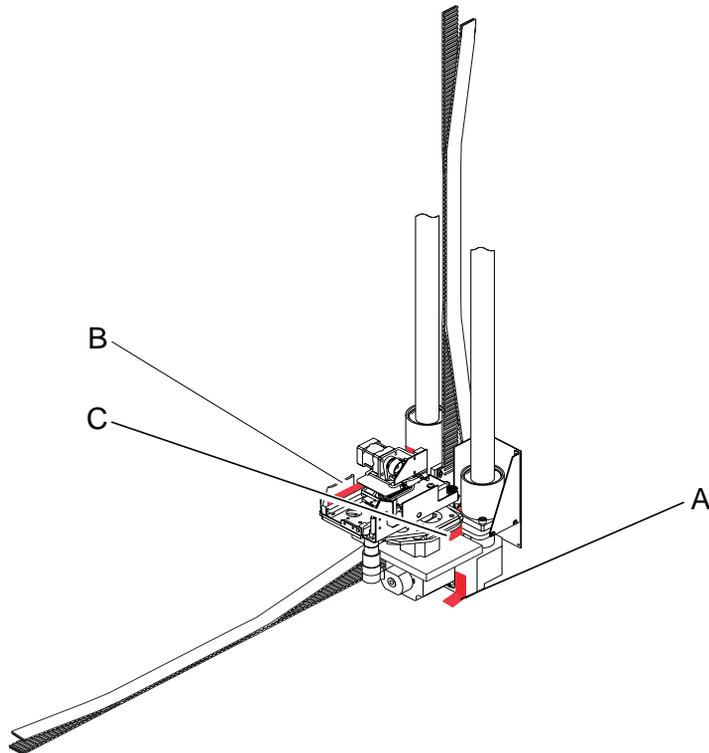

FIGURE 2-18 Robotics Shipping Restraints
6. Remove the restraints that secure the robotics as shown in FIGURE 2-18.